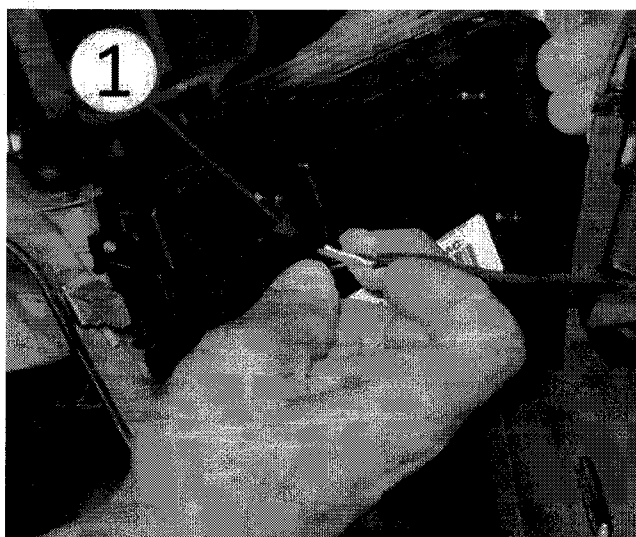

***Fig. 11 ICS Bezel Removal Upper***
15. Continue working around the ICS Bezel to disengage the remaining attachment clips on the right side and left side grasping inside the display screen opening (Fig. 11).